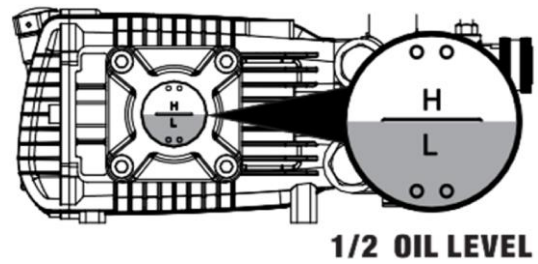

Fig. 6
- Check the engine oil level through the side window, ensuring it is halfway filled. If it is below this level, add fresh engine oil. See Fig. 6 for illustration.